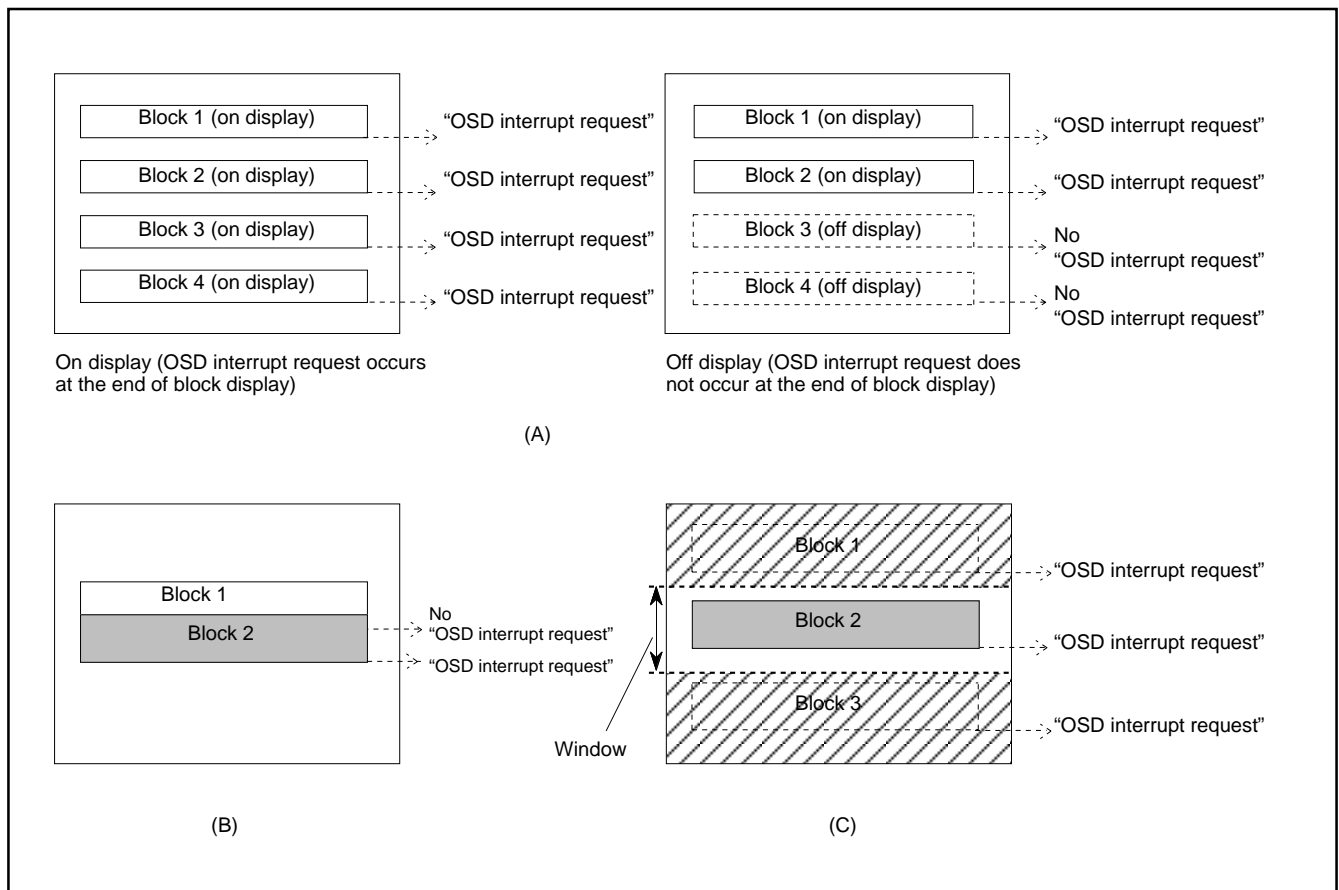

Fig. 8.11.37 Note on Occurrence of OSD Interrupt
- Notes 1:** An OSD interrupt does not occur at the end of display when the block is not displayed. In other words, if a block is set to off display by the display control bit of the block control register *i* (addresses 00D016 to 00DF16), an OSD interrupt request does not occur (refer to Figure 8.11.37 (A)).
- 2:** When another block display appears while one block is displayed, an OSD interrupt request occurs only once at the end of the another block display (refer to Figure 8.11.37 (B)).
- 3:** On the screen setting window, an OSD interrupt occurs even at the end of the CC mode block (off display) out of window (refer to Figure 8.11.37 (C)).